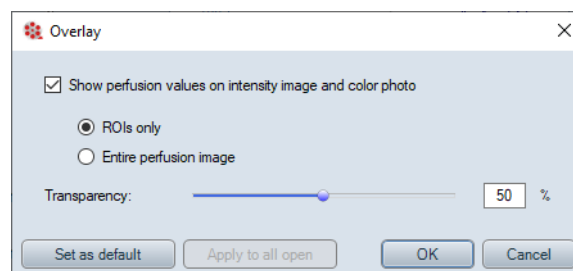

Figure 7-14 Overlay dialog.
2. In the *Overlay* dialog, Figure 7-14, select the option “Show perfusion values on intensity and color photo”.